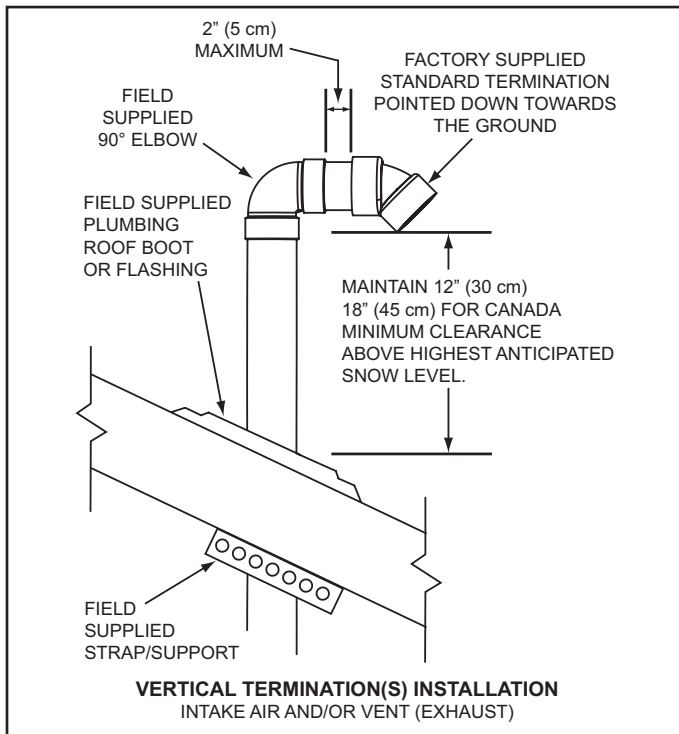
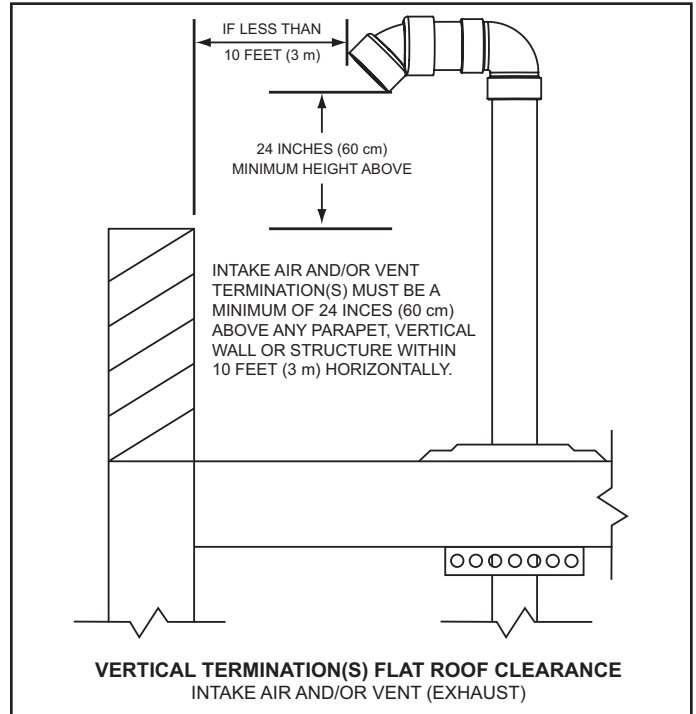
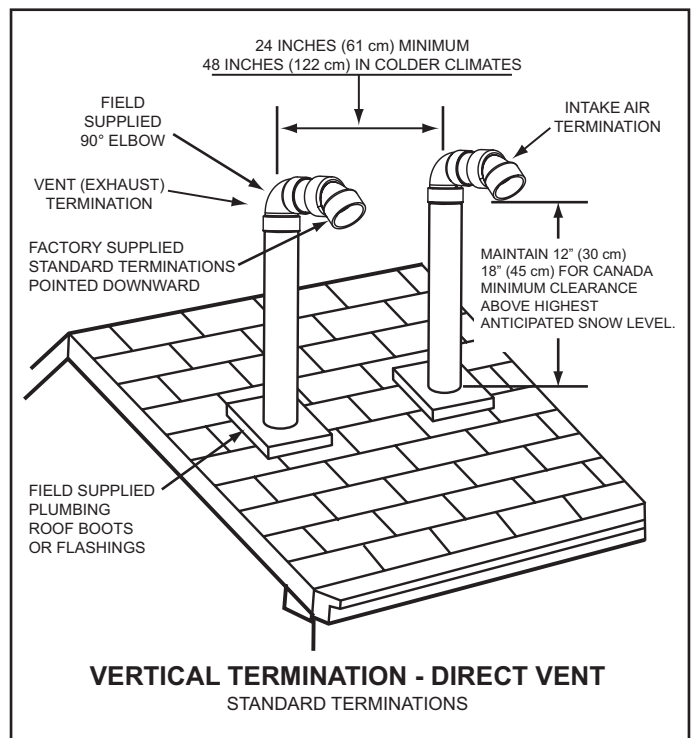

Figure 19
Figure 20
Figure 21
2. If installing only the vent (exhaust) piping in a Power Vent configuration vertically through the roof; ensure that all exterior vertical clearance requirements shown in Figure 19 and Figure 20 on page 25 are being maintained. These clearances and those cited by local and national codes must be maintained.
NOTE: On flat roof installations the vent termination must be a minimum of 24 inches (60 cm) above any parapet, vertical wall or structure within 10 feet (3 m) horizontally. See Figure 20 on page 25.
3. If installing both intake air and vent piping in a Direct Vent configuration vertically through the roof; ensure that all exterior vertical clearance requirements shown in Figure 19 and Figure 20 on page 25 are being maintained. These clearances and those cited by local and national codes must be maintained.
NOTE: On flat roof installations the intake air and the vent terminations must be a minimum of 24 inches (60 cm) above any parapet, vertical wall or structure within 10 feet (3 m) horizontally. See Figure 20 on page 25.
The vent termination must be oriented facing downward as shown in Figure 19 and Figure 20 on page 25.
The bottom edge of the vent termination must be a minimum of 12 inches (30 cm), 18 inches (45 cm) in Canada, above the average or expected snow level as shown in Figure 19 on page 25.
The intake air and vent pipes must penetrate the same side of the roof as shown in Figure 21 on page 25.
The intake air and vent terminations must be oriented facing downward and in the same direction as shown in Figure 21 on page 25.
The intake air and vent terminations must have a minimum separation of 24" (61 cm) measured on center line as shown in Figure 21 on page 25. In colder climates this separation should be increased to at least 48 inches (122 cm).
The bottom edge of the intake air and vent terminations must be a minimum of 12 inches (30 cm), 18 inches (45 cm) in Canada, above the average or expected snow level as shown in Figure 19 and Figure 21 on page 25.
The distance between the closest vent and intake air terminations must be a minimum of 24 inches (61 cm) as shown in Figure 21. In colder climates this separation should be increased to at least 48 inches (122 cm).
- Suspend the pipe(s) through center of hole using field supplied metal strapping or equivalent support materials as shown in Figure 19.
- Slide a roof boot or equivalent flashing over the pipe and secure roof boot or equivalent flashing to roof (see Figure 19) and seal around the flashing.
- Install the factory supplied intake air and/or vent termination(s) using field supplied pipe and one field supplied 90° elbow as shown in Figure 19. The short section of pipe that connects between the field supplied 90° elbow and the factory supplied termination must not be excessive in length. The exposed portion of this pipe shall be no more than 2 inches (5 cm), see Figure 19.